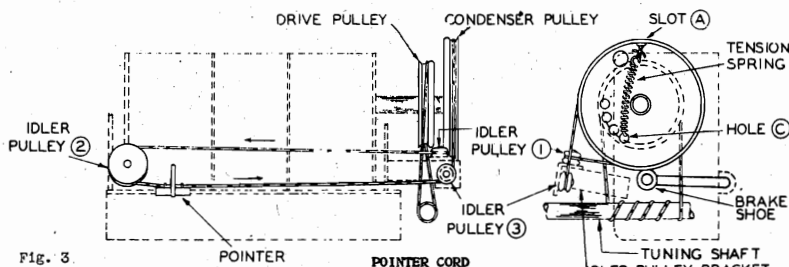

Fig. 3
5. Thread one end of cord through slot "A" in condenser pulley and with an ordinary paper clip fasten it to the idler pulley bracket to hold in place. (See Fig. 3)